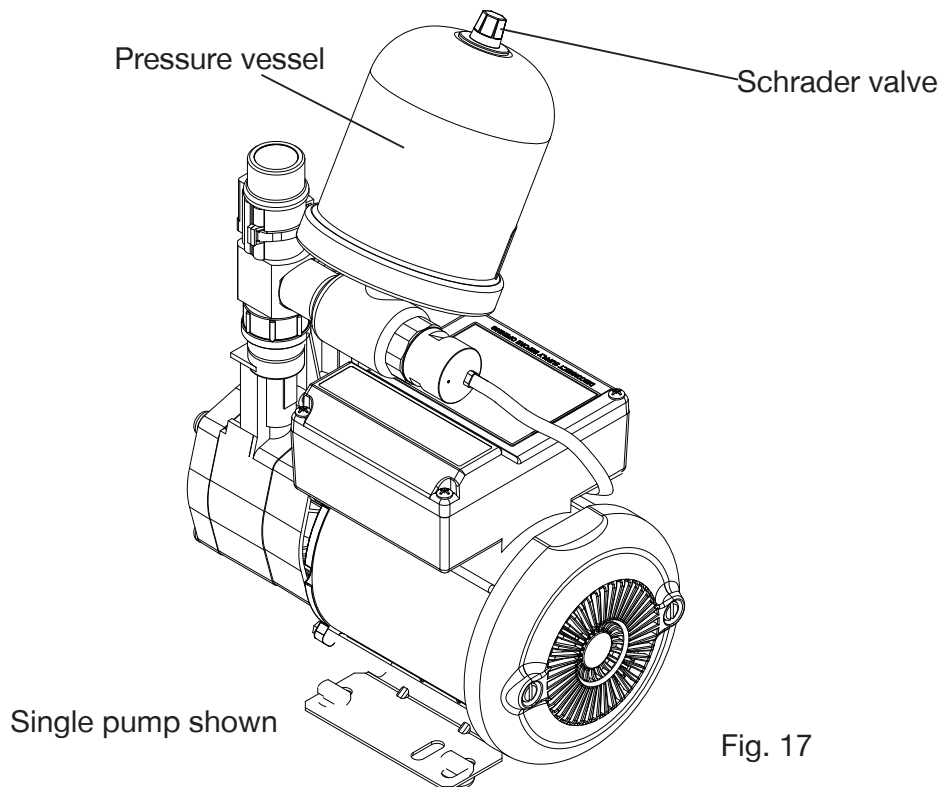

Fig. 17
- Check air charge at Schrader valve (Fig. 17) using a tyre pressure gauge.